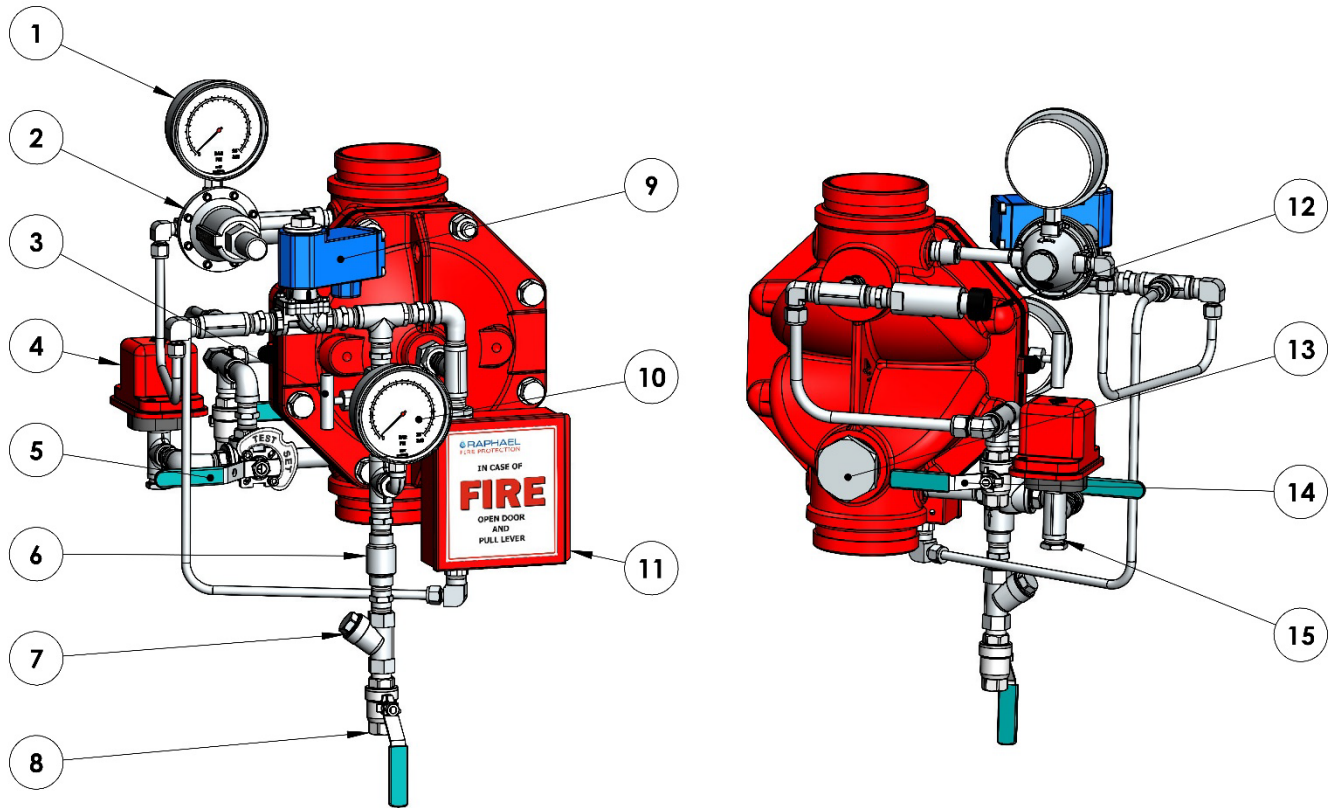

Figure 1
Operation (reference - figure 1)
Parts list (reference figure 1)
3. Push the MADV (MB) (**12 figure 1**) and make sure that after emptying condensing water, the drain flow/dripping stops. If a constant leakage is observed, it might indicate a deluge valve sealing problem.